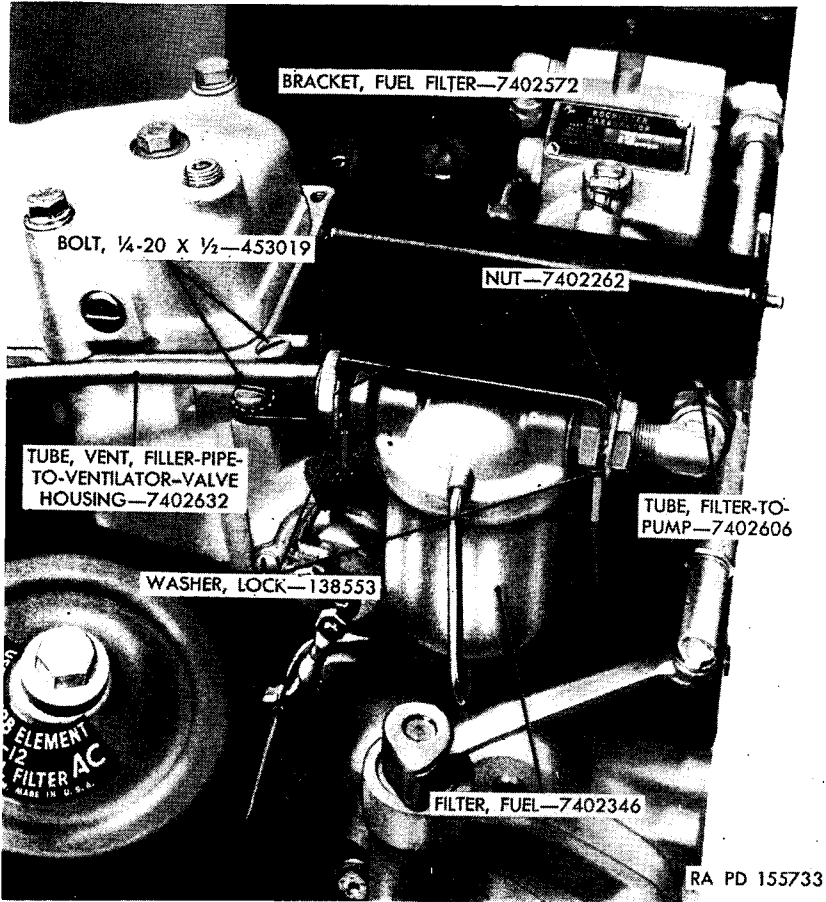

Figure 17. Fuel filter.
a. Disconnect fuel-filter inlet tube at filter. Also remove fuel tube between filter and fuel pump (fig. 17).
b. Loosen vent tube between carburetor and oil filler pipe and disconnect at carburetor end (figs. 17 and 18).
c. Remove fuel filter and fuel-filter bracket by removing carburetor-to-governor link (figs. 17 and 18) and removing two $\frac{1}{4}$ -20 x $\frac{1}{2}$ bolts and lock washers securing filter bracket to engine crankcase.